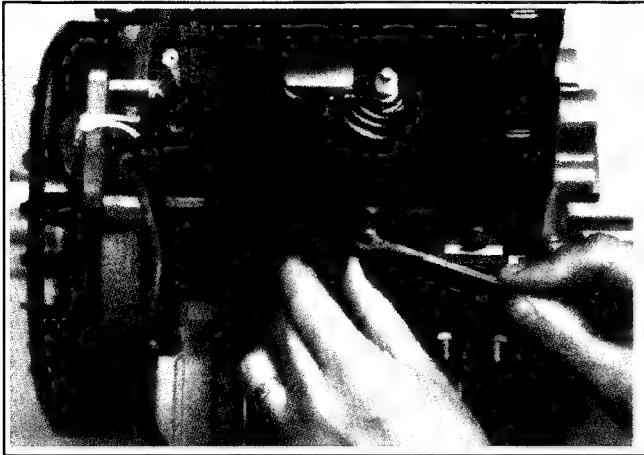

Figure 11-48. Installing Wiring Connector.
3. Install wiring connector to #1 cylinder side baffle with two hex. flange screws. See Figure 11-48.